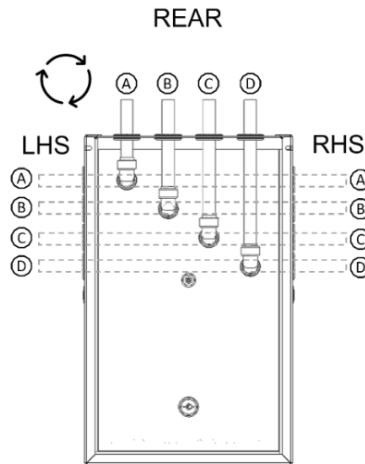
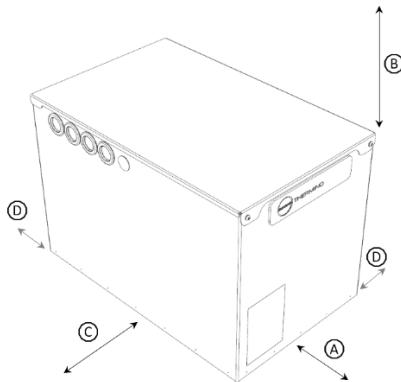

Figure 3: Heat Battery from Above showing the 3 possible tube exits.
Figure 10: Minimum Installation clearance
The heat is transferred between the PCM and the Primary and Secondary circuits using an integrated heat exchanger inside the cell. The direction of flow through the ports is key to the operation & control of the Heat Battery. See Figure 3 & Table 3 for details.
Table 3: Reference Figure 3 Heat Battery entry/exits
- Assess the location of installation, considering spatial requirements, clearances, cable and hydronic tube runs. See Figure 3 & Figure 10.
- Identify which side you wish to make a hydronic tube and cable entries (see Figure 3 in Section 2.3).
- Due to the weight of the Heat Battery, ensure the floor is level, sound and capable of supporting the product's weight (cf Table 4). Allow for space around the Heat Battery as per Figure 10 & Table 9 below.
Table 9: Reference Figure 10: Minimum Installation clearances